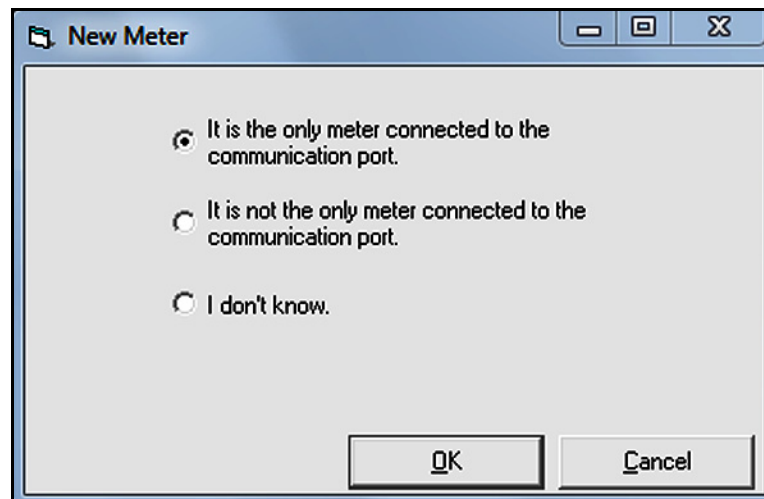

Figure 39: The Only Meter Dialog Box
8. Select the "It is the only meter connected to the communication port" radio button from the dialog box (see Figure 39 below) and then click [OK] button. In most instances, users connect their PC to one instrument only via a direct serial cable.